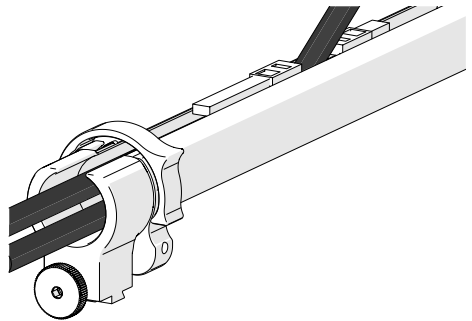

Fig. 87 - Flexibility
4. When necessary, the two zippers may be opened to allow cables to exit the sleeving anywhere between the ends (*Fig. 87*).